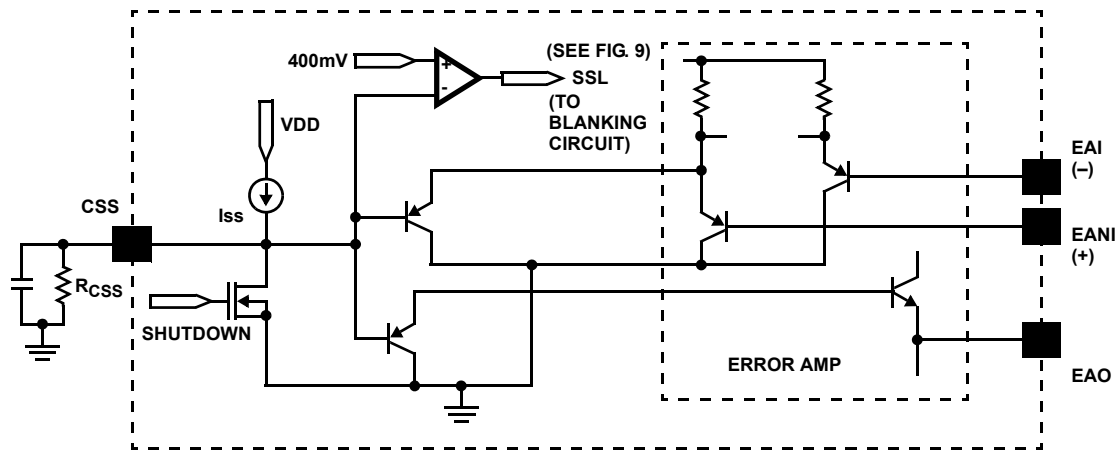

FIGURE 5. SIMPLIFIED CLAMP/SOFT-START
- Both EANI and EAO are clamped by the voltage (V_{clamp}) set at the CSS pin, as shown in Figure 5. Note that the diodes in the functional block diagram represent the clamp function of the CSS in a simplified way.
- The clamping voltage determines the cycle-by-cycle peak current limiting of the power supply. It should be set above the EANI and EAO voltages and can be programmed by an external resistor, as shown in Figure 5 using Equation 3.
eliminates response degrading delays which would be caused if filtering of the current feedback was incorporated. The current ramp is blanked out during the resonant delay period because no switching occurs in the lower FETs. The leading edge blanking function will not be activated until the soft-start (CSS) reaches over 400mV, as illustrated in Figures 5 and 9. The leading edge blanking (LEB) function can be disabled by tying the R_LEB pin to VDD, i.e., LEB = 1. Never leave the pin floating.